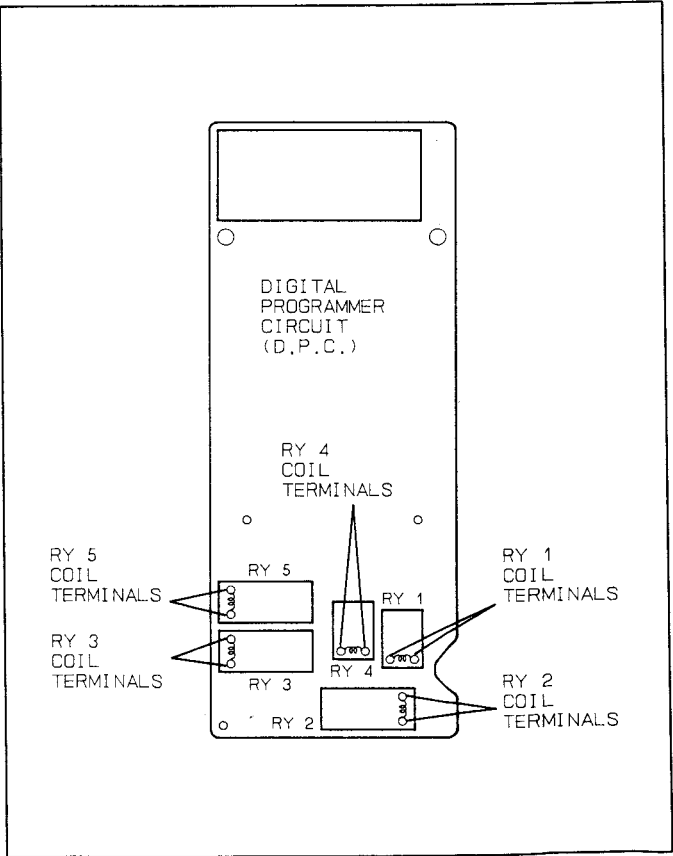

Fig. 39
- (1) Unplug the oven from outlet.
- (2) Disconnect 2 lead wires connected to the high voltage transformer primary side, and isolate them.
- (3) Connect DC volt meter between terminals of power relay 5 coil (RY 5) on the D.P.C. (See Fig. 39 on page 26.)
- (4) Plug in the oven.
- (5) Set High power with desired cooking time and tap start pad.
- (1) Unplug the oven power cord.
- (3) Connect DC volt meter between power relay 1 coil (RY1) on the DPC. (Fig. 39)
- (4) Open the door assembly.
- (5) Plug in the oven power cord.
- (6) Check DC voltage being applied to the power relay 1 coil with door opened.